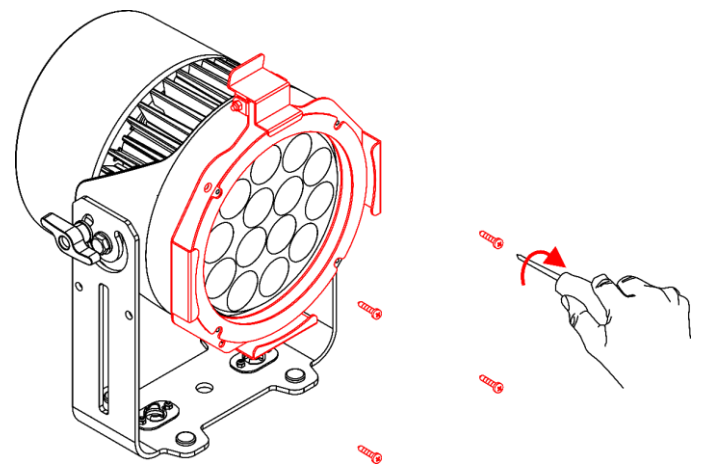

Fig. 08
- 02) Use a screwdriver to tighten the 4 screws (supplied with the Accessory Holder) to secure the Accessory Holder in position (Fig. 08).